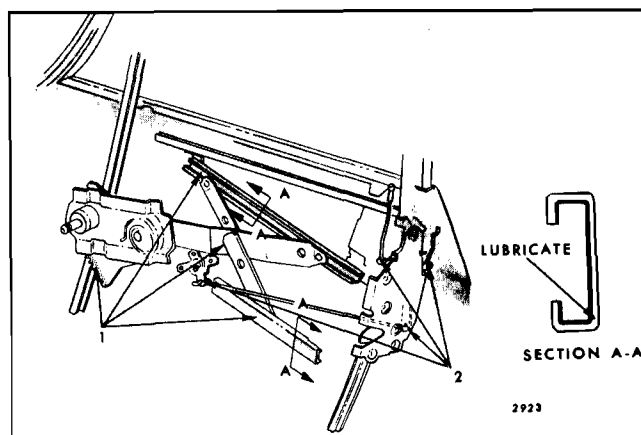

Fig. 2-7—Door Window Regulator and Cam Lubrication - Closed Styles
1. Applying a thin coat of white lithium soap grease (Fiske Bros. Lo-Temp. Lubriplate #777 equivalent) cover the entire length of the lower sash channel cam and inner panel cam as shown in Section "A-A", Figure 2-7.
2. Lubricate all connecting rod pivot points with Auto-Lube "A", Part No. 1050110 or Spray-Lube "A", Part No. 1050520 or equivalent, at the points indicated in Figure 2-7.
3. Apply a thin coat of Auto-Lube "A", Part No. 1050110 or Spray-Lube "A", Part No. 1050520 or equivalent, to the teeth of the sector gear and the pivot point of the balance arm and lift arm as indicated at points 1 in Figure 2-7.